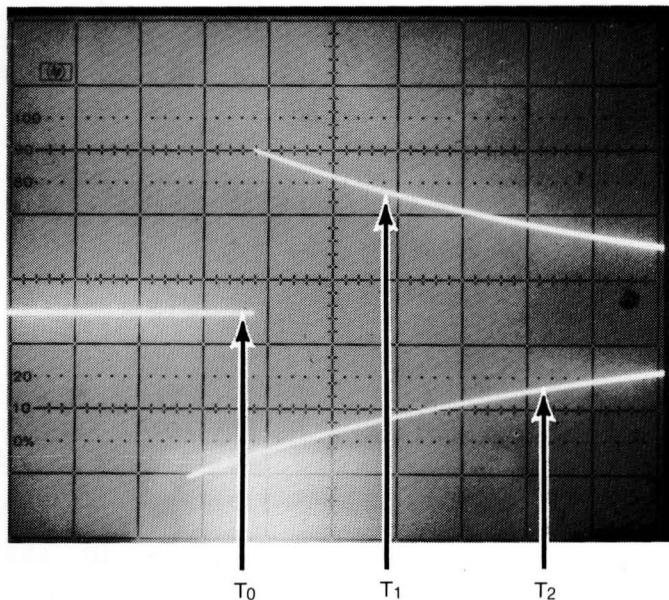

Figure 5-5. Track 0 Waveform
f. With the scope connected and set-up, the waveform should be similar to that in section V (see fig. 5-5). The duration from T0 to T1 must be less than 18ms and the duration from T0 to T2 must be less than 24ms. If these times are within the limits, no adjustment is necessary. If either of the time limits is exceeded, proceed with steps g thru l.
- k. With the torque driver adjusted to 8 inch pounds, re-tighten the track 0 switch retaining screw while observing the oscilloscope pattern (see fig. 5-5).